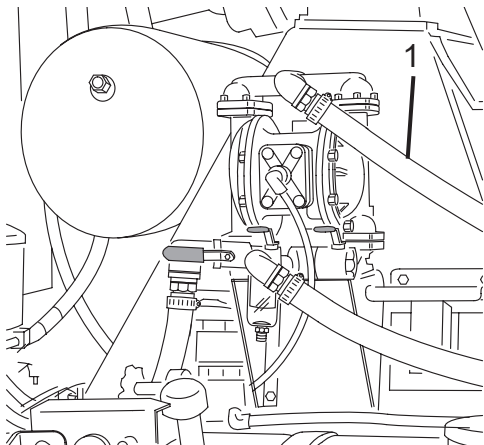

Figure 118
14. Open the drain petcock located at the lowest point in the supply hose (Figure 118, Item 1).